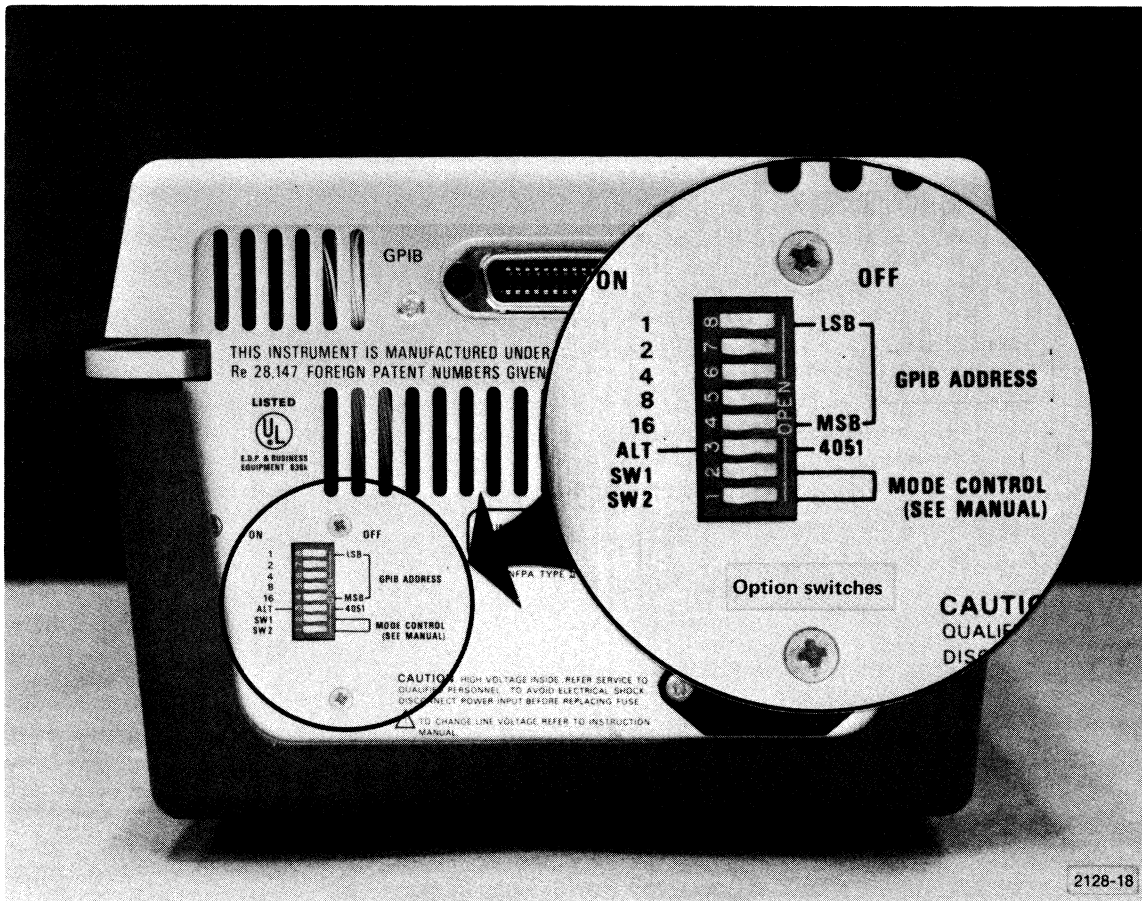

Figure 9-7. 4924 Rear Panel Switches.
2. Refer to Figure 9-7. Set the ALT-4051 switch on the 4924's rear panel to ALT.
4. Encode the GPIB address you have selected on the 4924's GPIB ADDRESS switches (Figure 9-7), as follows: